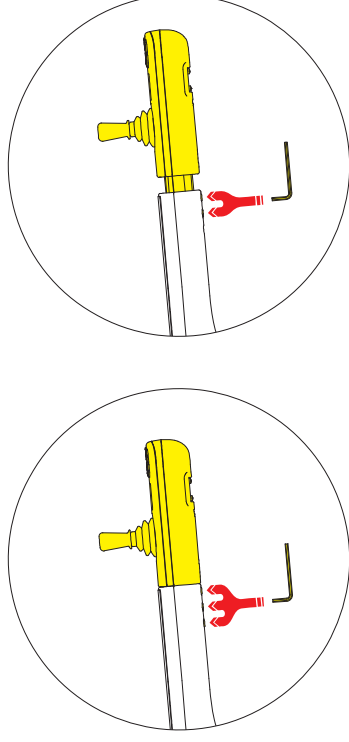

Figure 4.5.2
Step 3, use the hexagonal wrench to lock the hexagon socket screw. (As shown on Figure 4.5.2)